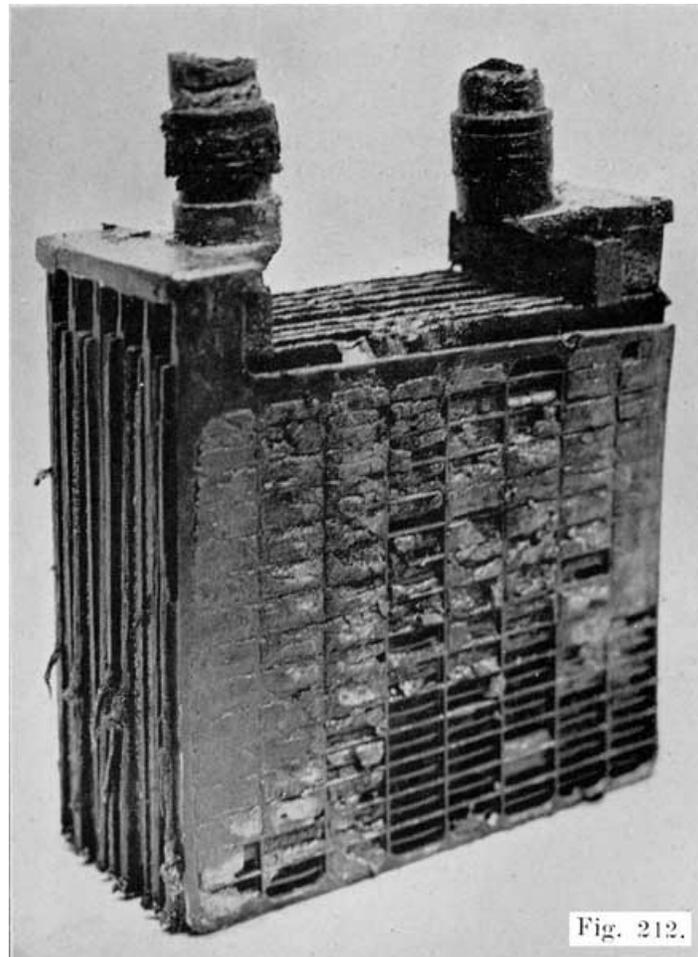

Fig. 212. Element from a "Slopper."
**8. If a battery case is not held down firmly**, or if the elements are loose in the jars, the plates will jump around when the car is in motion. This will break the sealing compound on top of the battery, and cause the battery to be a slopper. The active materials will be shaken out of the grids, as shown in Fig. 212, and the plates will wear through the separators. New plates are required.